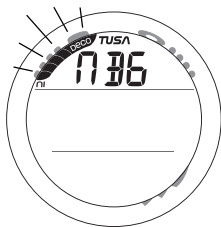

Fig. 40 - SET NiBG ALARM
**Set NiBG Alarm** information includes (Fig. 40):